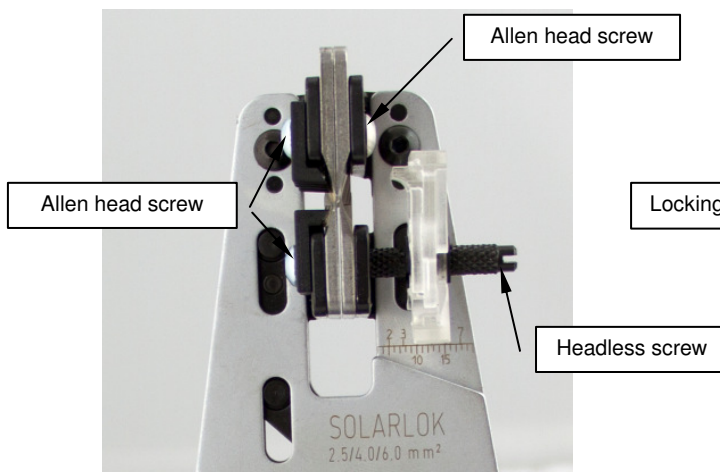

Figure 5
1. Undo the Allen head screws (see Figure 5).
2. Undo the headless screw (see Figure 5).